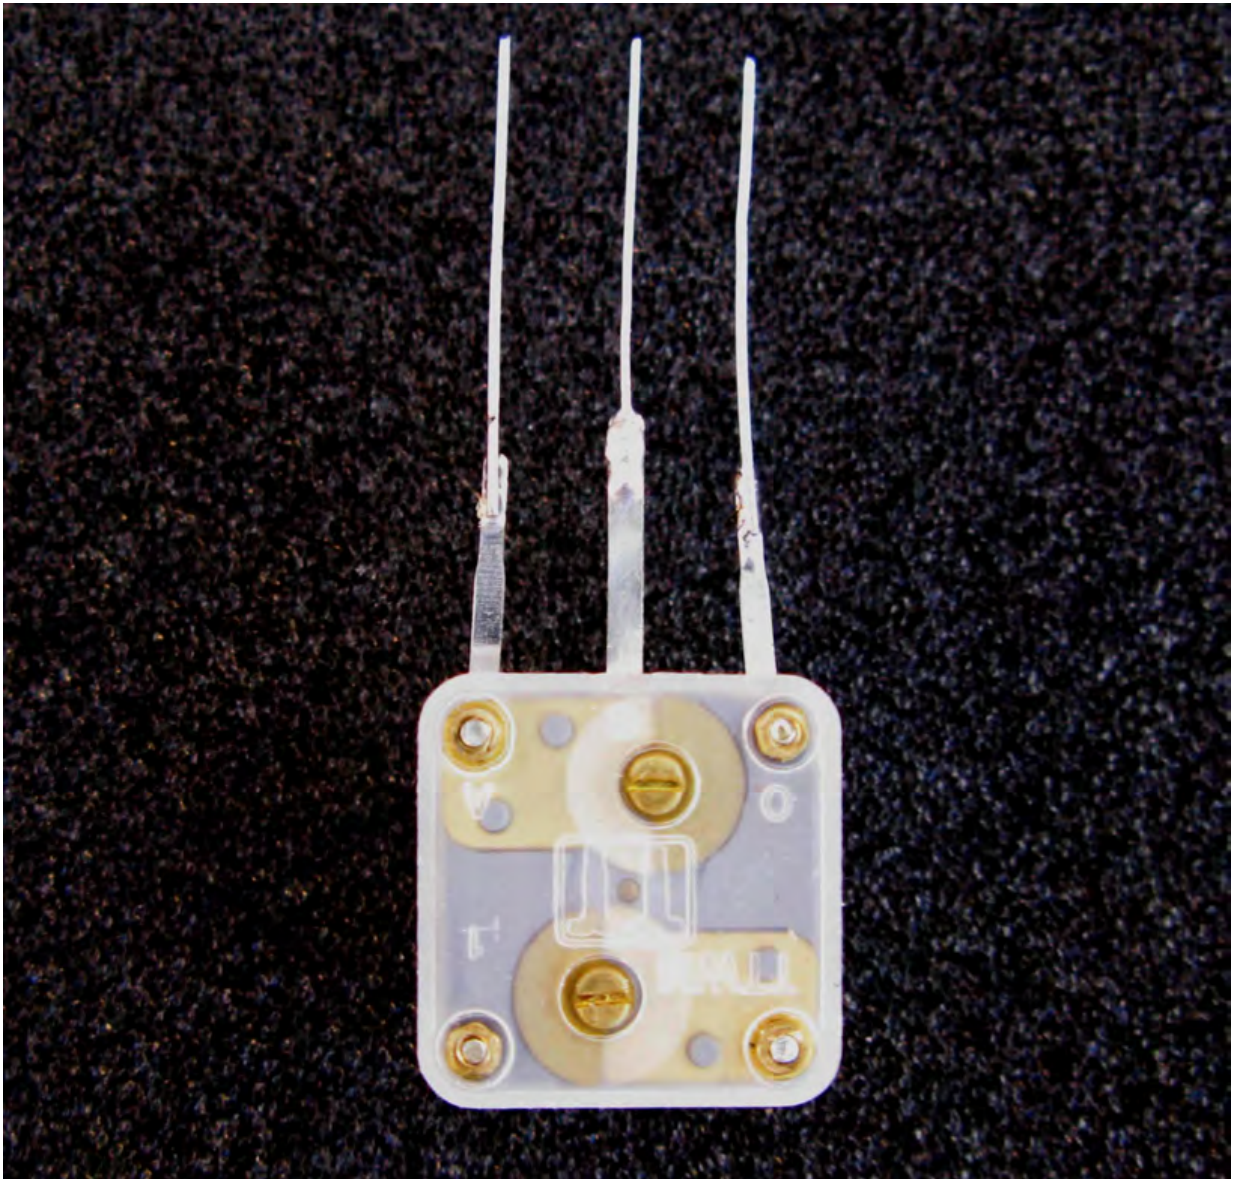

Figure 10 Poly-varicon preparation
- On the backside set the trimmers to the minimum capacitance. You should see a "full moon" brass colored disk in this condition, as shown in Fig. 10.